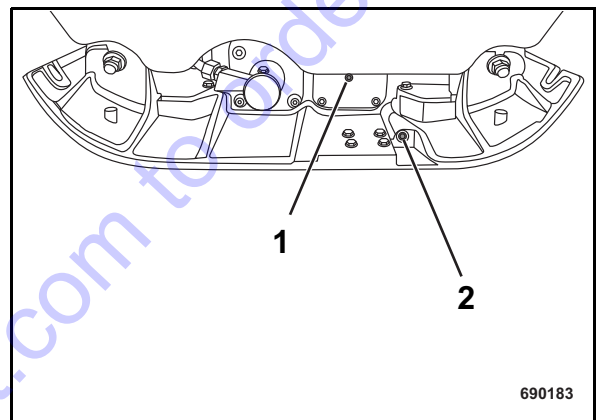

Fig. 56
- Unscrew the bleeding screw (1) (Fig. 56).
- Unscrew the oil drain plug (2) and check the oil level.